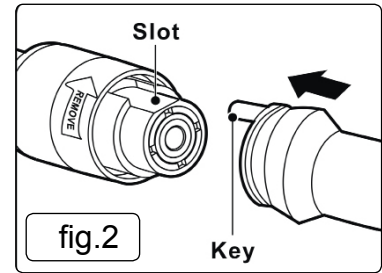

fig.2
- 4.2. **Attach Flexible Cable to Borescope (fig.2).**